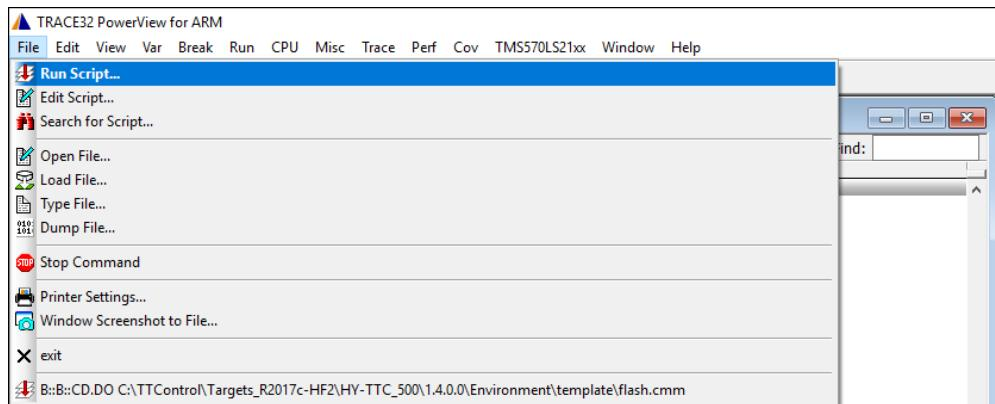

Figure 5.44: Trace32 and .cmm batch file
5. The HY-TTC 500 template comes with a predefined \*.cmm script. Start the script by clicking **File > Run Script** (Figure 5.44 on the current page).